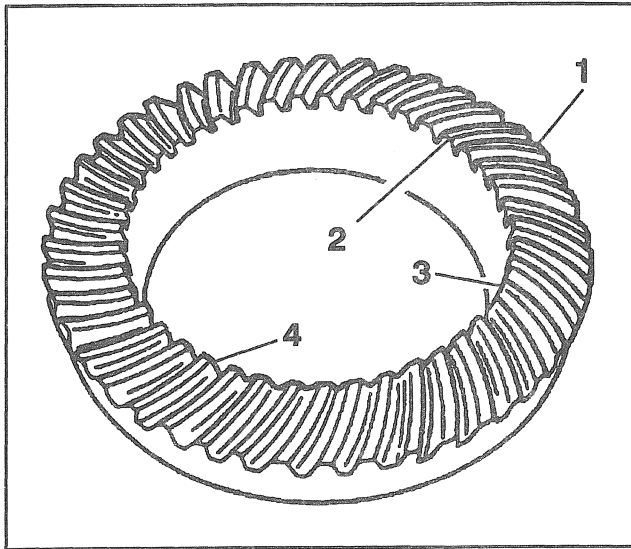

Figure 24—Gear Tooth Nomenclature
The side of the ring gear tooth which curves outward, or is convex, is referred to as the "drive" side (4). The concave side is the "coast" side (3). The end of the tooth nearest the center of ring gear is referred to as the "toe" end (2). The end of the tooth farthest away from the center is the "heel" end (1). The toe end of the tooth is smaller than the heel end (Figure 24).